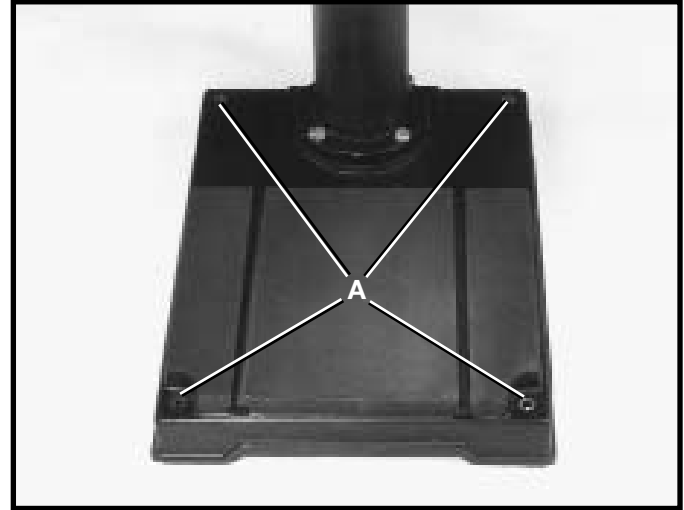
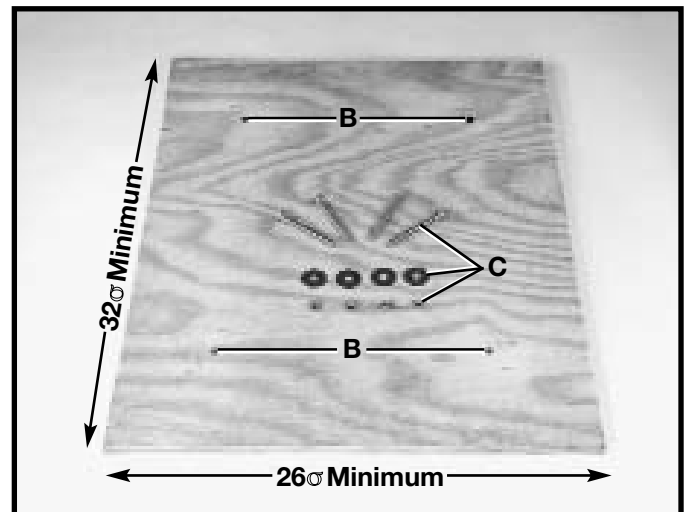

Fig. 16
Fig. 17
If your drill press is to be used in one permanent location, the drill press base must be secured to the supporting surface with fasteners through the four mounting holes, (A) Fig. 16, in the drill press base.
1. Drill four $3/8$ diameter holes (B) Fig. 17, corresponding to the mounting holes (A) Fig. 16, of the drill press base in a 26 x 32 minimum size plywood board.
2. Fasten the drill press base to the mounting board using the carriage bolts, nuts, and washers (C) Fig.17, furnished with your drill press. The carriage bolt heads must be countersunk such that the bolt heads are flush with the bottom surface of the mounting board in order to guarantee the proper stability.